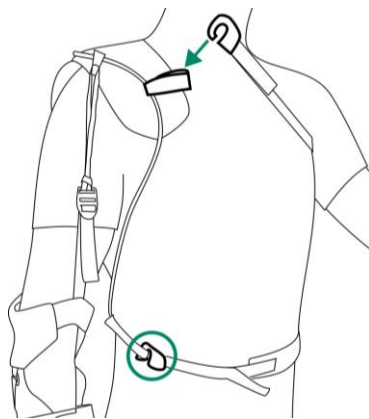

Figure 9
3. Attach both torso straps. For this, secure the plastic hooks to the loops at the front of the bracket (Fig. 9).